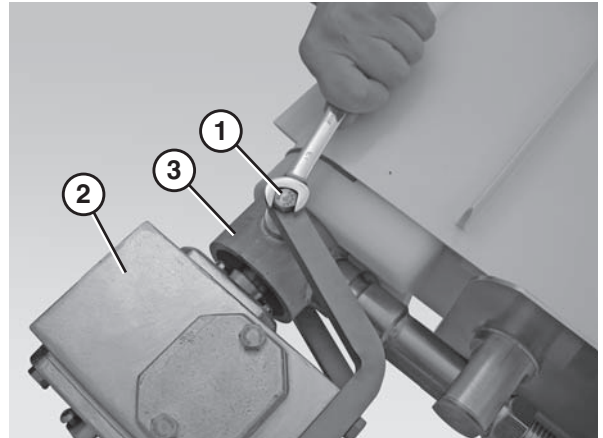

Figure 60
4. Remove the bolts (**Figure 60, item 1**) that connect the gear reducer (**Figure 60, item 2**) to the motor support bracket (**Figure 60, item 3**) and slide the gear reducer off the drive spindle.